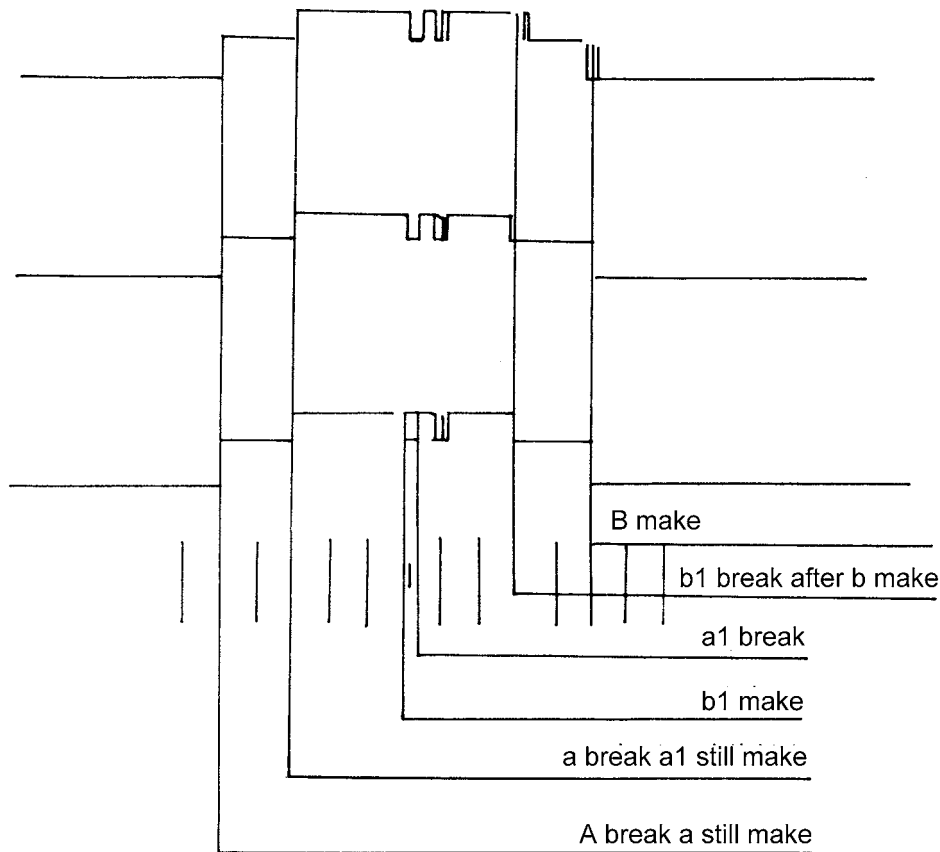

Fig.8
6.3 Oscillogram (fig.8) of switching sequence